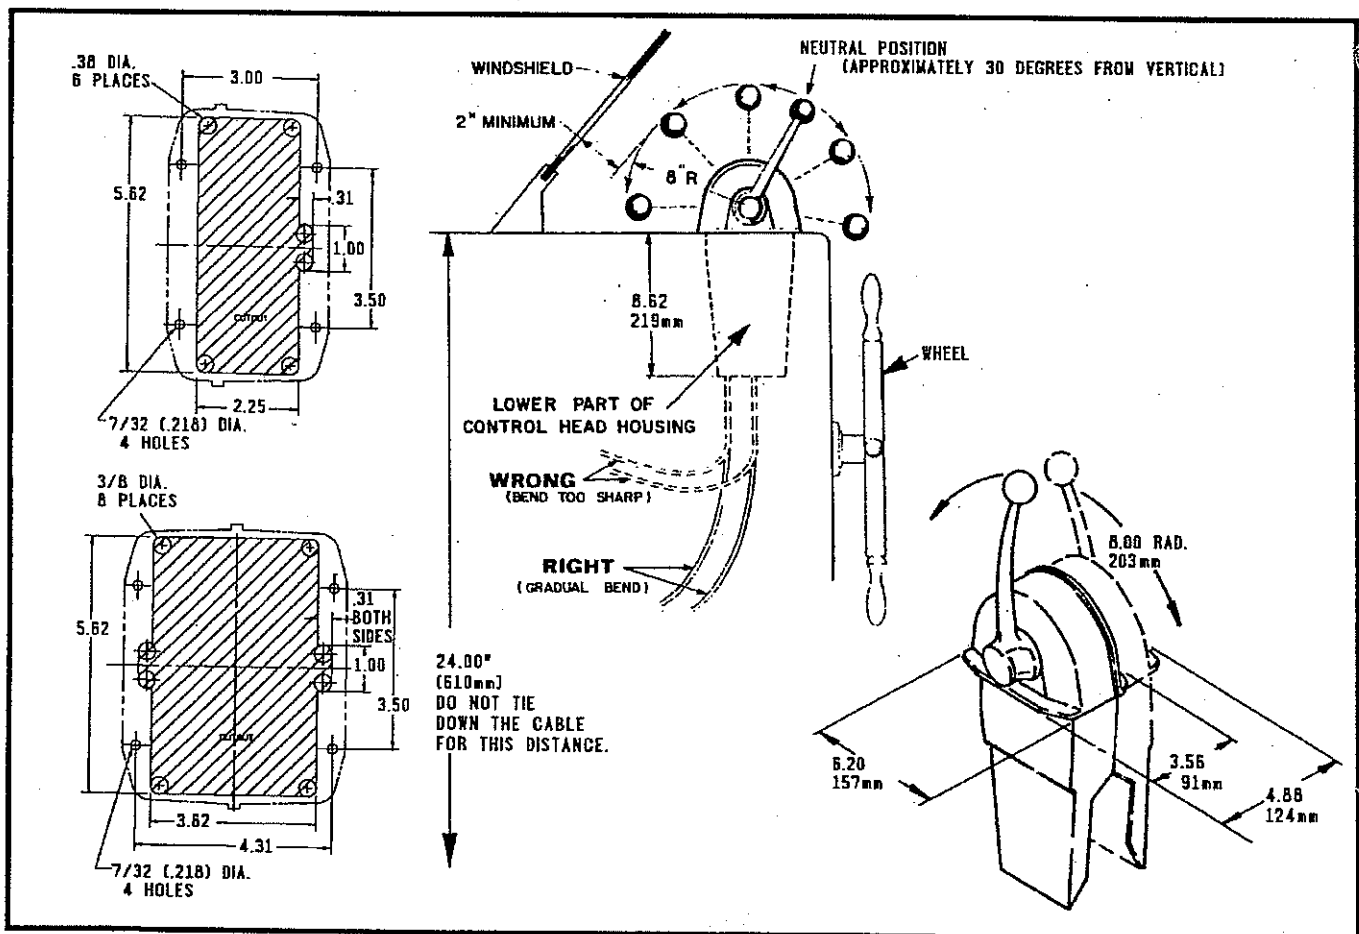

FIGURE 1
See Figure 1 for Control dimensions.
- 1.2 Allow adequate clearance under the console for the Cables. Refer to Figure 1.